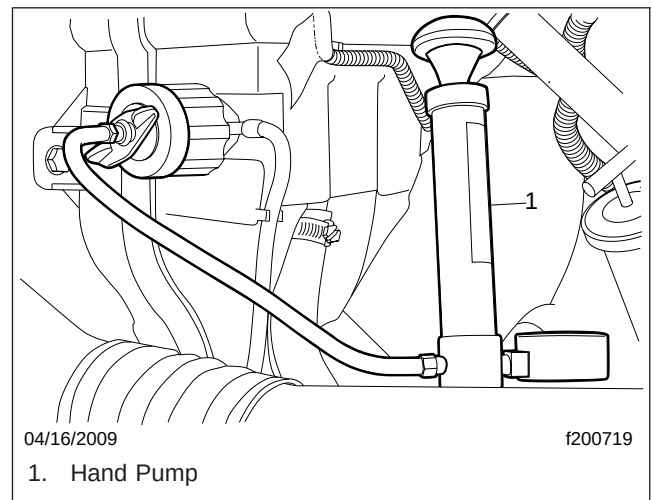

Fig. 3, Hand Pump Installation
3. Attach a radiator-pressure hand pump, and apply no more than 20 psi (138 kPa) of pressure to the cooling system. See Fig. 3.